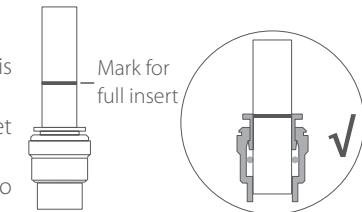

Figure 1
- Shut off the water supply and remove the faucet hose. (Figure 1)